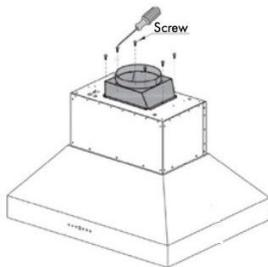

Figure 1.
2. Attach the air outlet adapter and ducting over the hood with the provided screws (\varnothing 6" for 30", 10" for 36", 48" and 60"). *Figure 1*